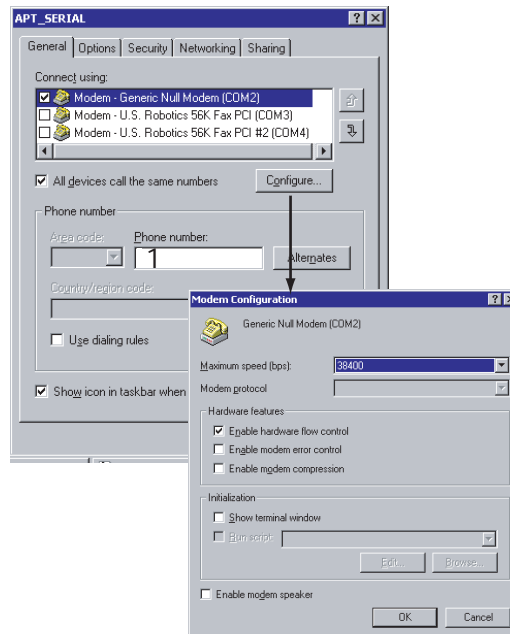

Figure 2.32: Windows 2000 Select Modem
- 11 Select the *Options* tab of Figure 2.32: Windows 2000 Select Modem.